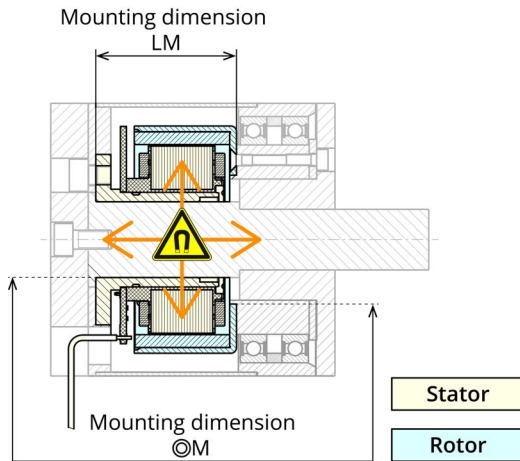

Figure 3-19 Verification of stator and rotor position
- 41) Make sure that rotor and stator are correctly aligned and verify the motor length (→Figure 3-19; mounting dimension **LM**).
43) Verify the motor length and concentricity(→Figure 3-19; mounting dimensions **LM** and **⊙M**).